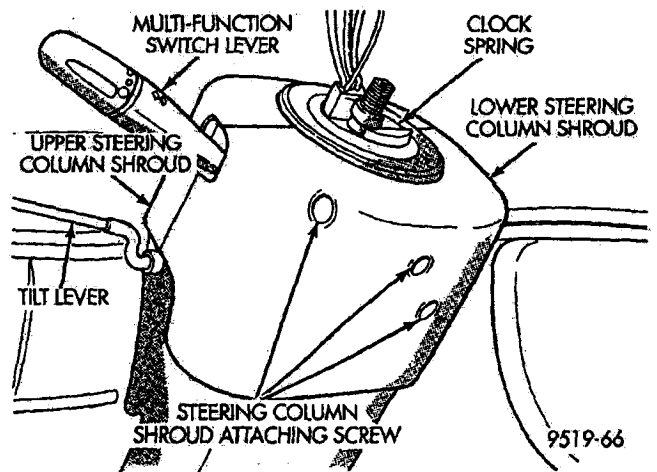

Figure 3
15. Remove the three (3) screws that attach the upper and lower shrouds to the steering column, then remove the shrouds from the steering column (Figure 3).
20. Install the upper and lower shrouds onto the steering column (Figure 3). Tighten the screws securely.